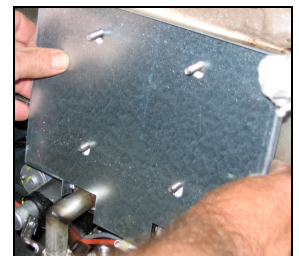

Figure 14
9. Remove four screws on the collector insulation plate (see Figure 14).